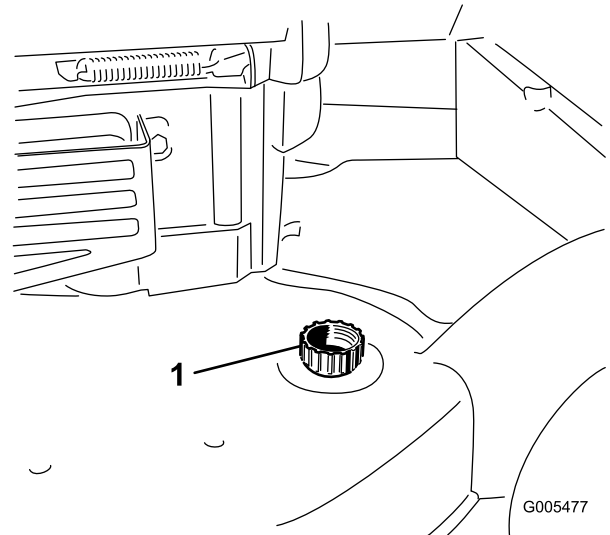

Figure 42
3. Attach a garden hose that is connected to a water supply to the washout port (Figure 42).